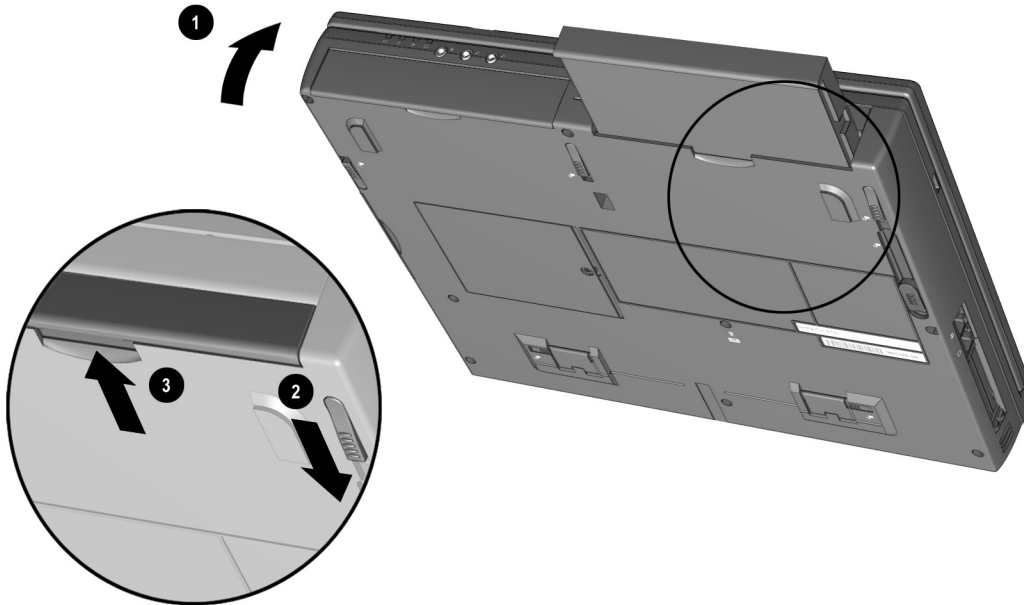

Figure 5-8. Removing a MultiBay Battery Pack
2. Tilt the computer at an angle ❶ so the bottom of the computer is accessible (Figure 5-8).
3. Slide the front MultiBay release latch ❷ toward the back of the computer.
4. Grasp the MultiBay battery pack using the recess ❸ beneath the battery bay and remove the MultiBay battery pack.